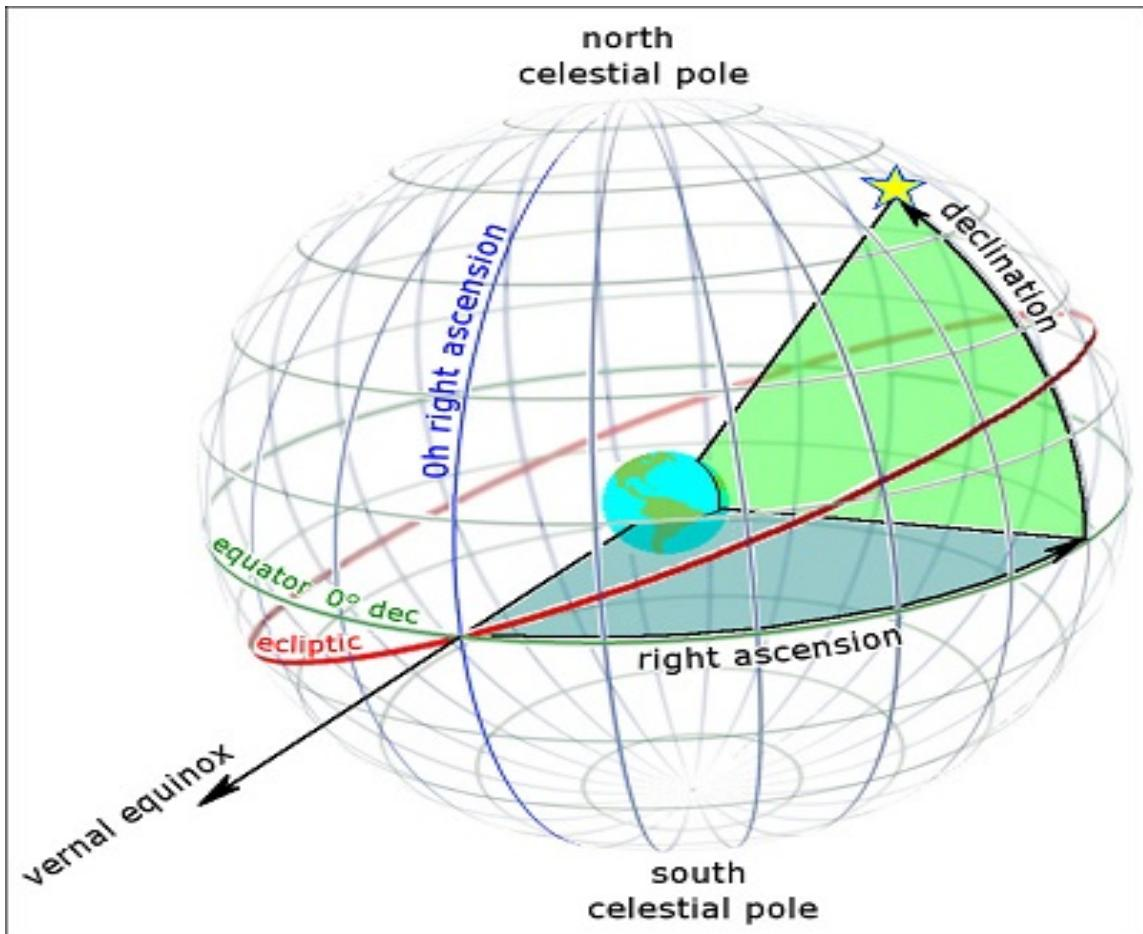

fig 2: Celestial Sphere
The G4 equatorial telescope mount uses two bipolar stepper motors one for driving the Right Ascension (RA) axis and the other for Declination (DEC). The RA is the celestial equivalent of longitude, and DEC the celestial equivalent of latitude (fig2).